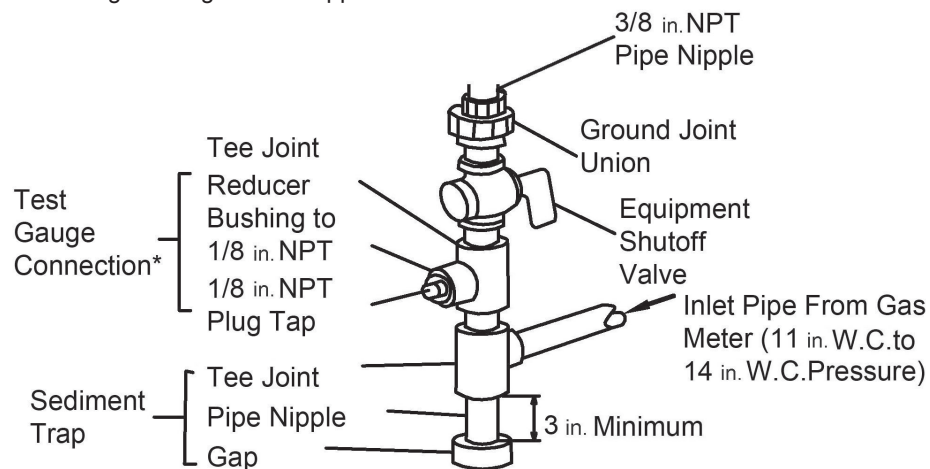

Figure 12 - Gas Connection (inches)
**Typical Inlet Pipe Diameters** Use 3/8-inch black iron pipe or greater. Installation must include an equipment shutoff valve, union, and plugged 1/8-inch NPT tap. Locate NPT tap within reach for test gauge hook up. NPT tap must be upstream from heater (see Figure 12).
Install sediment trap in supply line as shown in Figure 12. Place sediment trap where it is within reach for cleaning. Place sediment trap where trapped matter is not likely to freeze. A sediment trap traps moisture and contaminants. This keeps them from going into heater controls. If sediment trap is not installed or is installed wrong, heater may not run properly.